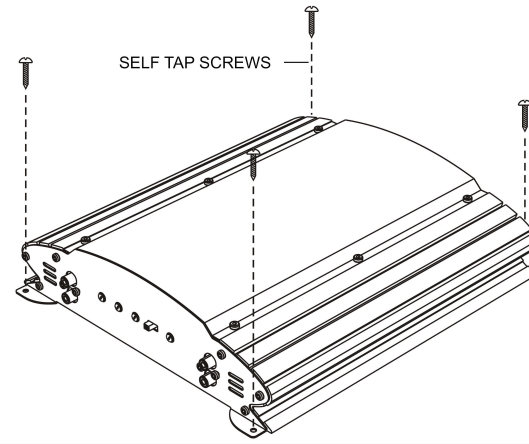

Fig.1
1. After reading precaution, decide where you are going to install the unit. Also, see Fig.1.